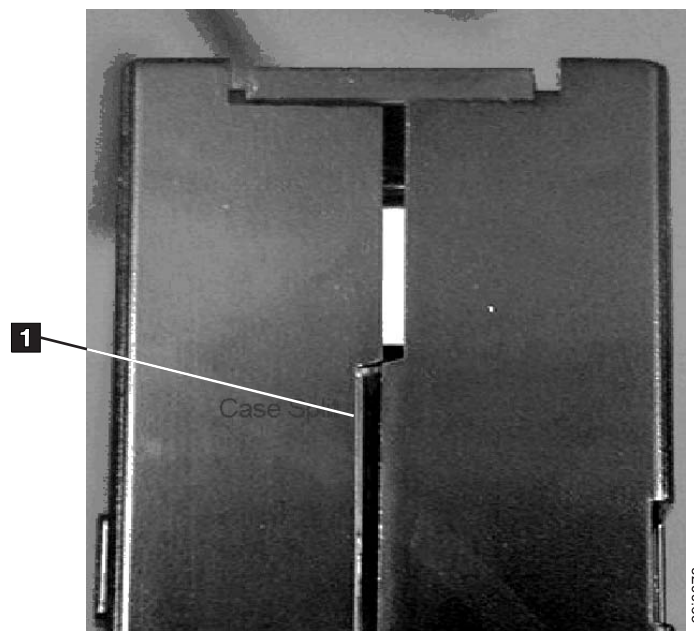

Figure 9-4. Checking for gaps in the seams of a cartridge
- Inspect the rear of the cartridge (the part that loads first into the tape load compartment) and ensure that there are no gaps in the seam of the cartridge case (see **1** in Figure 9-4 and **4** in Figure 9-8 on page 9-18). If there are gaps in the seam (see Figure 9-4), the leader pin can be dislodged.